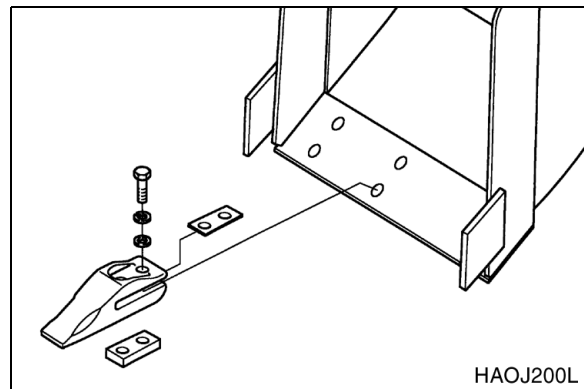

Figure 4
2. To replace a tooth (1, Figure 4), use a hammer and punch to drive the locking pin (2) and lock washer (3) out of the tooth adapter (4).
2. To replace a tooth, remove bolts, lock washers and plain washers from seat. Remove tooth and shim(s) from bucket. See Figure 4.